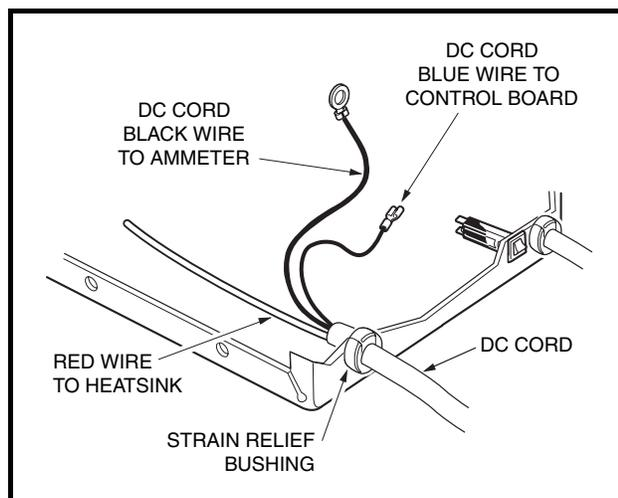
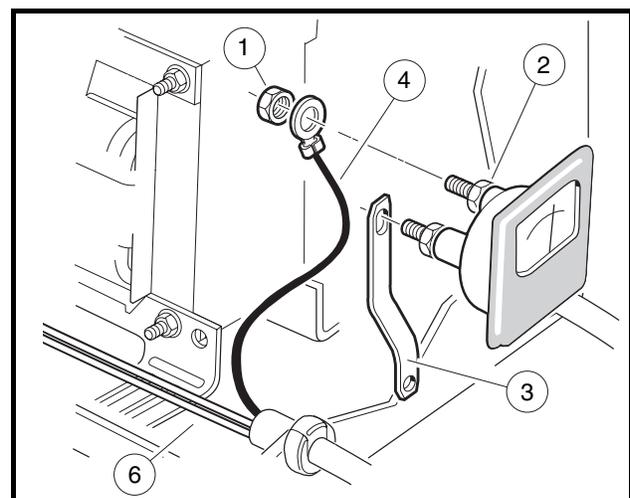

Figure 4-18 DC Cord
Figure 4-19 DC Cord Replacement
3. To check the continuity of the DC cord, disconnect the black wire of the DC cord from the ammeter **(Figure 4-18, Page 4-22).**
3. Remove the DC cord black wire (4) from the ammeter by loosening the nut (1). Support the terminal as the nut is loosened to prevent rotation of the connection (**Figure 4-19, Page 4-22**).
4. Remove nut attaching the red wire (6) of the charger DC cord to the heatsink.
7. Disconnect the DC cord blue wire from the control board (**Figure 4-18, Page 4-22**).
8. Using pliers, squeeze the strain relief bushing and remove the DC cord (**Figure 4-18, Page 4-22**).
2. Attach the red wire of the new DC cord to the center terminal of the heatsink and tighten the nut to 18 in-lb (2.0 N·m) (**Figure 4-18, Page 4-22**).
3. Attach the blue wire of the new DC cord to the control board (**Figure 4-18, Page 4-22**).
4. Attach black wire of the new DC cord to ammeter. Install nut (1) onto post of ammeter slightly more than finger tight. While holding the inside nut (2), tighten the outside nut (1) 1/4 turn (**Figure 4-19, Page 4-22**). **See following CAUTION.**